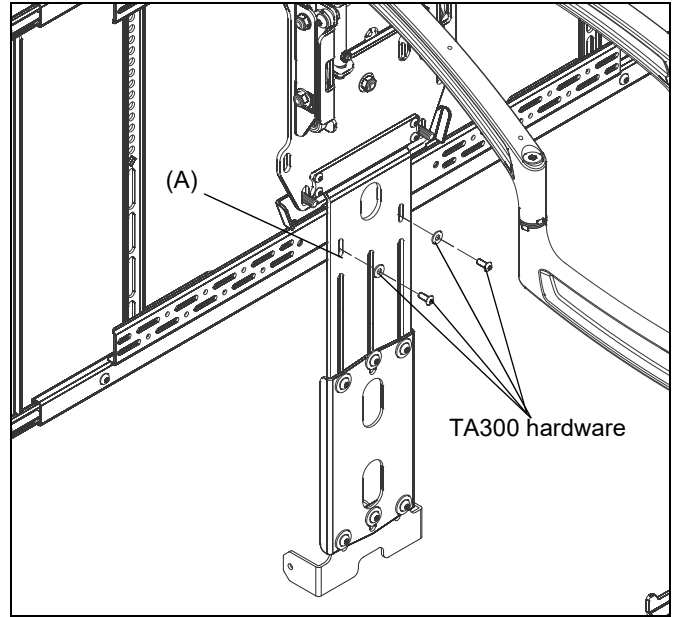

Figure 6
NOTE: If also installing side speaker brackets (TA300), attachment bracket (A) should also be attached to TA300 horizontal brackets for additional support. Use hardware provided with TA300. (See Figure 6)